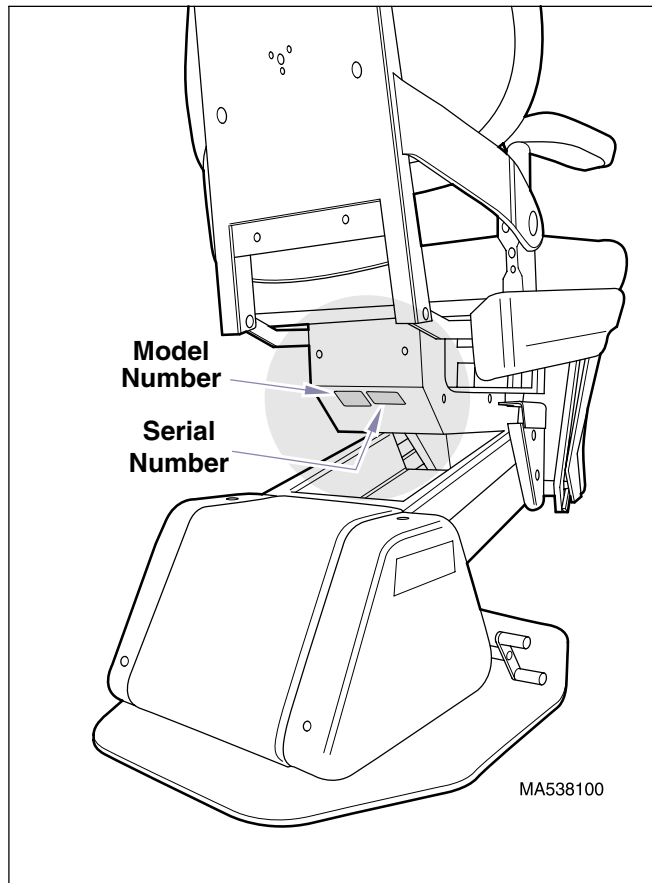

Figure 1-3. Model Number / Serial Number Location
- (1) Refer to Figure 1-3 to determine the location of the model number and serial number of the chair and record this data. Refer to the Parts List to determine the item numbers of the parts, part numbers of the parts, descriptions of the parts, and quantities of parts needed and record this data (Refer to para 6.1).